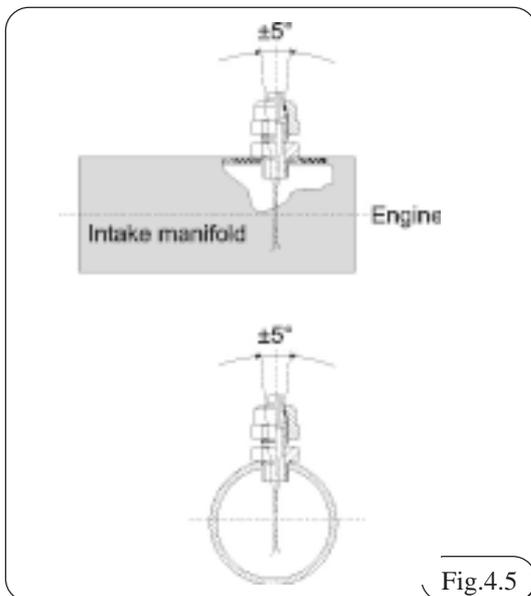

Fig.4.5
- The position of the injectors cannot exceed +/- 5 degrees tolerance from the vertical of the intake manifold drilling point (See Fig. 4.5)